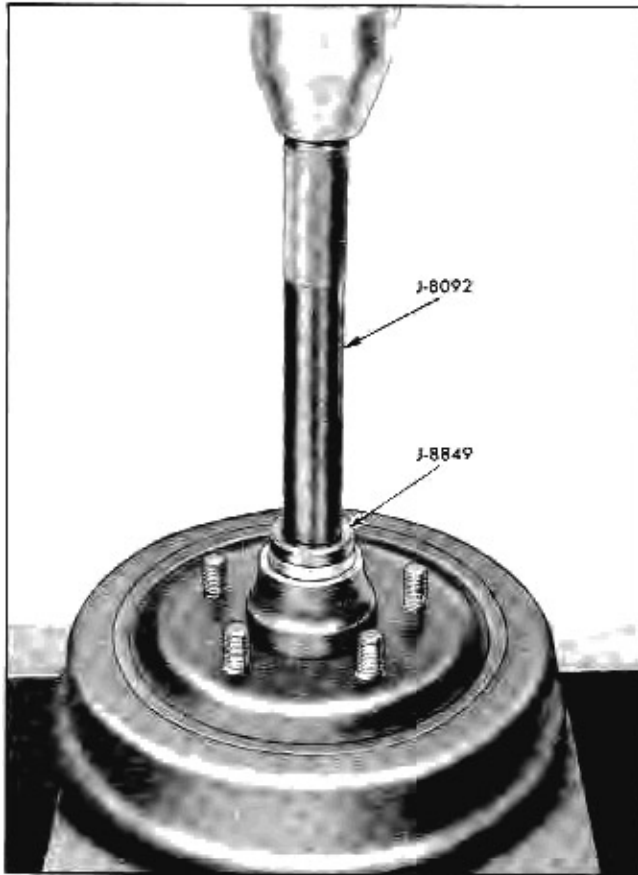
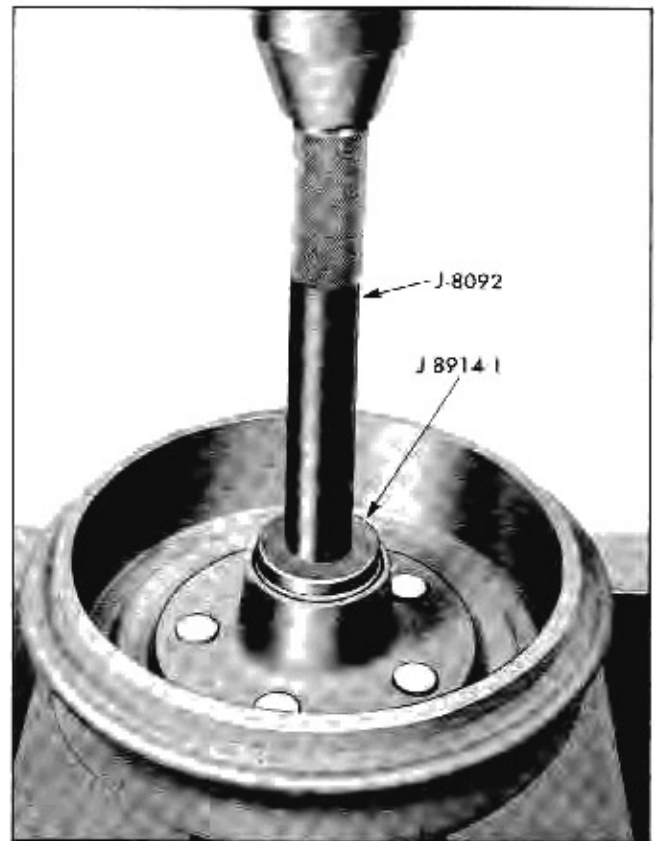

Fig. 3-14 Installing Outer Race in Hub
Fig. 3-15 Installing Inner Race in Hub
3. Install new bearing cup in hub using Tool J-8849 (Fig. 3-14) on the outer race and Tool J-8914-1 (Fig. 3-15) on the inner race. Tool J-8092 Driver Handle must be used with the above installers.